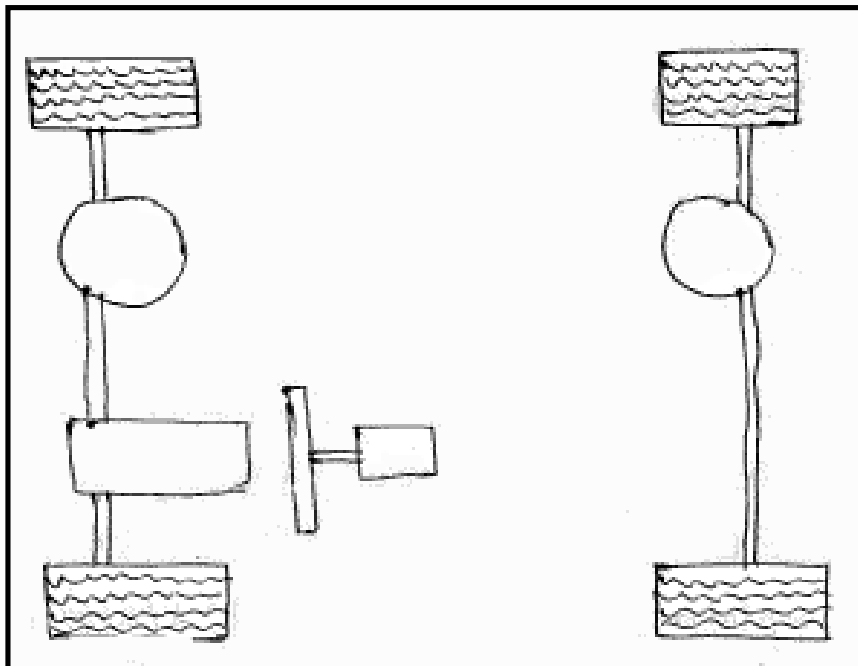

Fig. No. 1
- a) Redraw and complete the fig. No. 1 label it and identify the layout of vehicle.